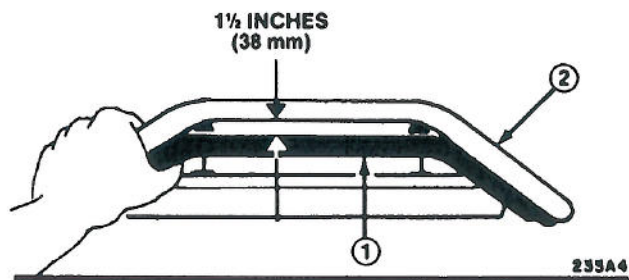

Figure 21
3. Check wheel drive adjustment by slowly pulling mower rearward while slowly squeezing control bar toward upper handle. Mower will no longer move rearward when wheel drive engages. Control bar should be approximately 1 1/2 inch (38 mm) from upper handle when wheel drive engages (Fig. 21). If loss of traction still occurs after readjustment, repeat procedure.